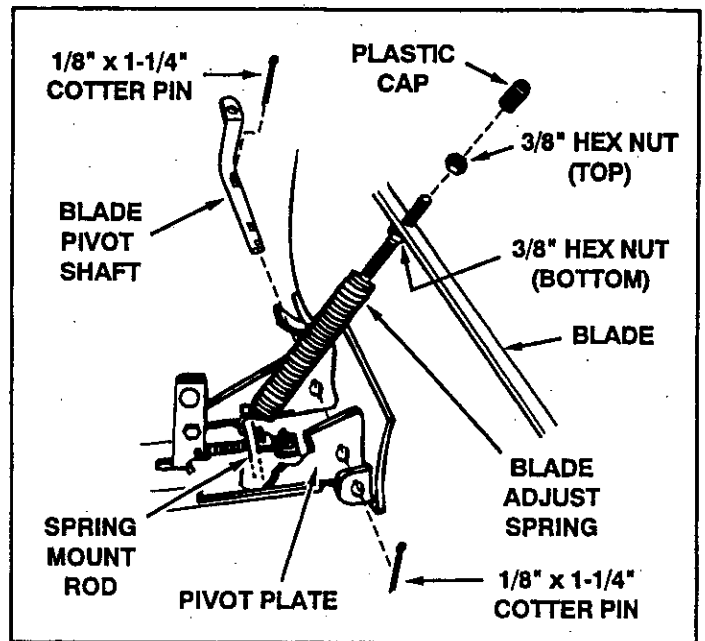

FIGURE 13 (Right Hand Side View)
- To attach the blade to the channel assembly, align the notched holes in the pivot plate with the notched holes in the blade. Insert a 1/8" x 1-1/4" cotter pin down through the hole at the bend in the blade pivot shaft. Spread the ends of the pin. From the left side insert the blade pivot shaft, bend facing up, through the notched holes. Secure the shaft with another 1/8" x 1-1/4" cotter pin through the end hole in the shaft. Spread the ends of the pin. See figure 13.
- Remove the plastic cap and one 3/8" hex nut from the bolt in the blade adjust spring. Adjust the remaining 3/8" hex nut down approximately 1" onto the bolt threads. Hook the spring over the spring mount rod as shown in figure 13. Place the bolt up through the hole in the top edge of the blade and reassemble the other 3/8" hex nut and tighten down against the top edge of the blade. Replace the plastic cap over the end of the bolt threads. See figure 13.
- The tension of the blade adjust spring may be altered to permit the blade to tilt forward to bypass solid obstructions. To change the spring tension, adjust the nuts at upper end of the spring bolt. Standing in front of blade, turn the nuts counterclockwise to relieve tension and clockwise to increase tension. Refer to figure 13 on page 8.